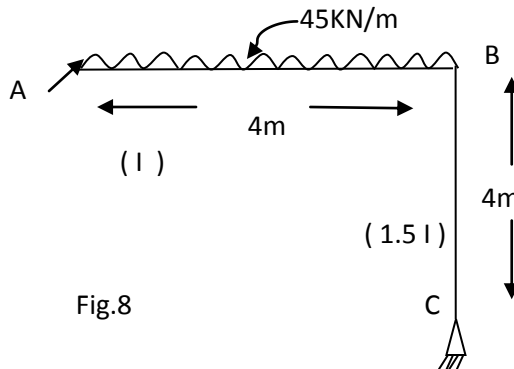

Fig.8
Q.10 a) Analyze the frame shown in fig 8 by moment Distribution method and plot BMD 08